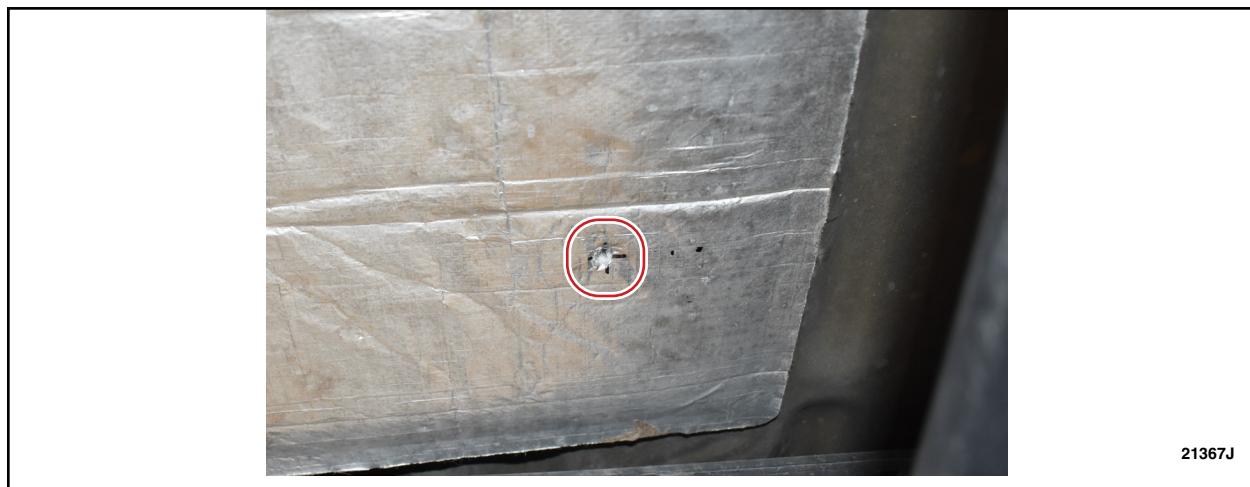

FIGURE 13
11. Use the 5.1 mm (13/64 in) drill bit for rivet part number W719880-S417 or the 6.7mm (17/64 in) drill bit for all other rivet part numbers to drill a hole through the insulator and into the floor. See Figure 13.